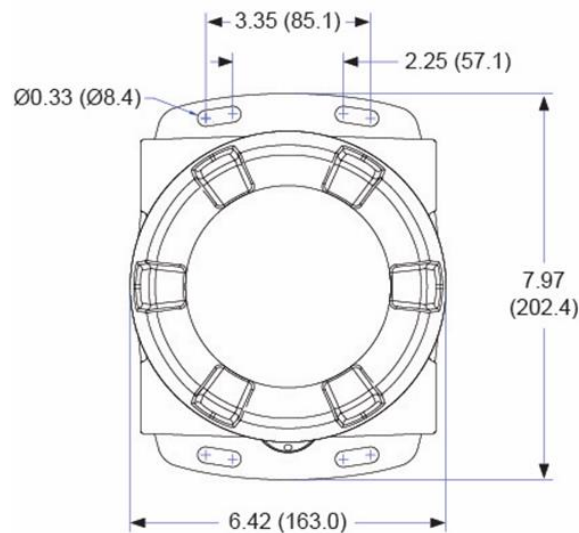
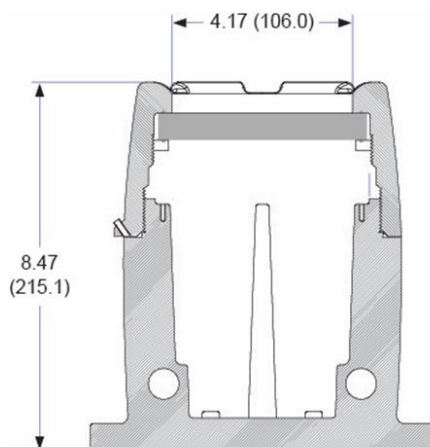

Figure 2. Enclosure Dimensions – Front View
Figure 3. Enclosure Dimensions – Side Cross Section View
Refer to *Figure 2* and *Figure 3* below.
- Prepare a section of wall approximately 7.0" x 8.5" (178 mm x 216 mm) for meter mounting by marking with a pencil the mounting holes (shown in *Figure 2*) on the wall.
- Select the appropriate mounting screws for the mounting surface to be used. The mounting holes diameter is shown on *Figure 2*.